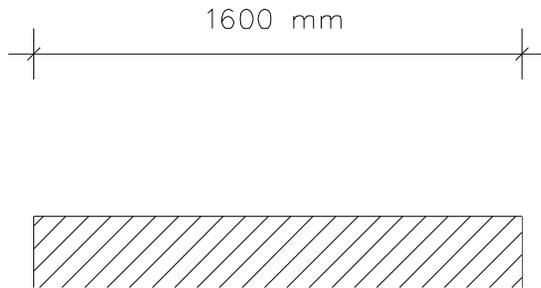

Figure 14.5: DIN standard dimension
- DINStd Toggle on to use the DIN Standard, set by the German Institute for Standardization (see Figure 14.5)